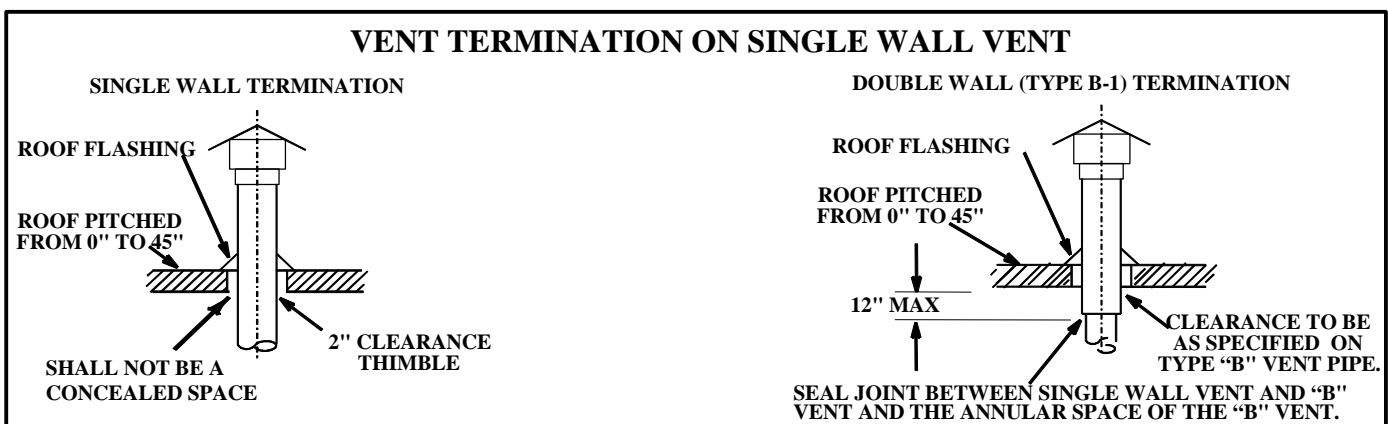
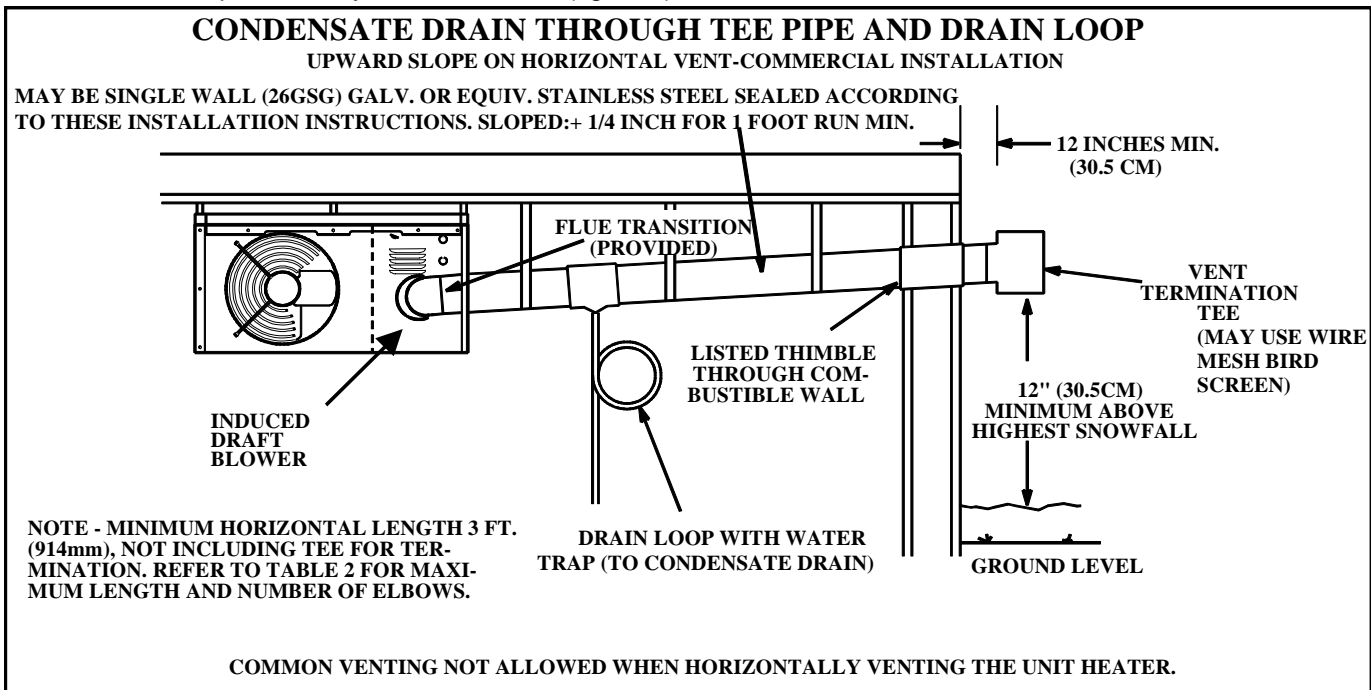

FIGURE 2
FIGURE 3
1-CGHA unit heaters are to be used with NFPA- or ANSI- approved chimneys, U.L. listed type B-1 gas vents, single wall metal pipe, or listed chimney lining system for gas venting where applicable, as well as the modifications and limitations listed in figure 2. Seal single wall vent material according to the section **A-General Recommendations and Requirements**.
- 8- When termination is routed through an exterior combustible wall the vent must be supported using a listed clearance thimble. Where local authorities permit, a single section of type B-1 vent pipe may be used as an alternative to the thimble. When using a type B-1 vent termination use the clearances specified by the vent manufacturer. Seal the connection between the single wall and double wall pipes and the annular space of the double wall pipe as shown in figure 2. Inside edge of vent termination tee must be at least 12 inches from outside wall as shown in figure 3.
- 1- Horizontal commercial installations are for buildings which are not attached to living spaces. The vent may be single wall vent material installed according to the sections **Venting A - General Recommendations and Requirements** and **C - Horizontal Venting - General** and **D - Horizontal Venting - Commercial**. Refer to figures 3, 4, and 5.